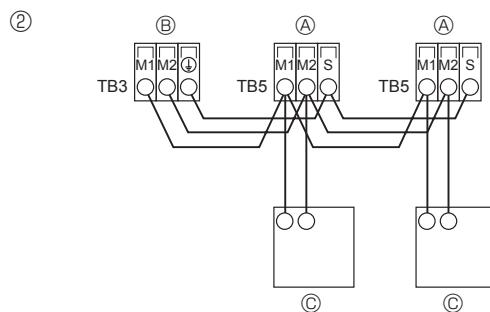

Fig. 6-4
- ② DC 9 to 13 V between 1 and 2 (MA remote controller)
- ③ M-NET Remote controller (Fig. 6-4)